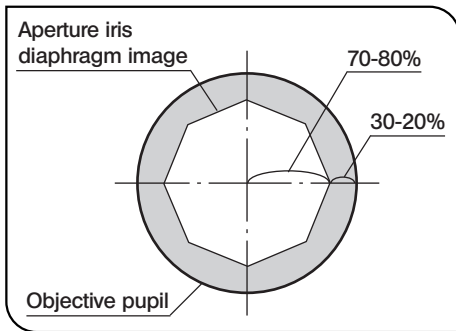
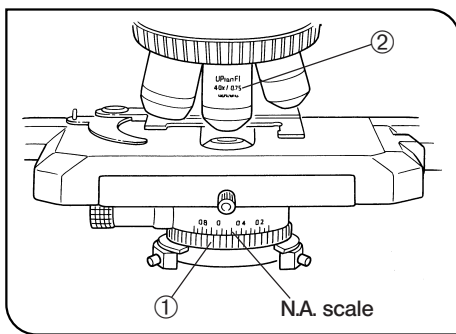

Fig. 34
Fig. 35
Aperture Iris Diaphragm (Figs. 34 & 35)
- Since the contrast of microscope specimens is ordinarily low, setting the condenser aperture iris diaphragm to between 70 and 80% of the N.A. ② of the objective in use is usually recommended. Adjust the ratio by removing the eyepiece and looking into the eyepiece sleeve while adjusting the aperture iris diaphragm ring ① until the image shown in Fig. 34 is seen.
③ Using the numerical aperture scale:
You can use the condenser numerical aperture scale by adjusting the aperture iris diaphragm ring ①. (Fig. 35)